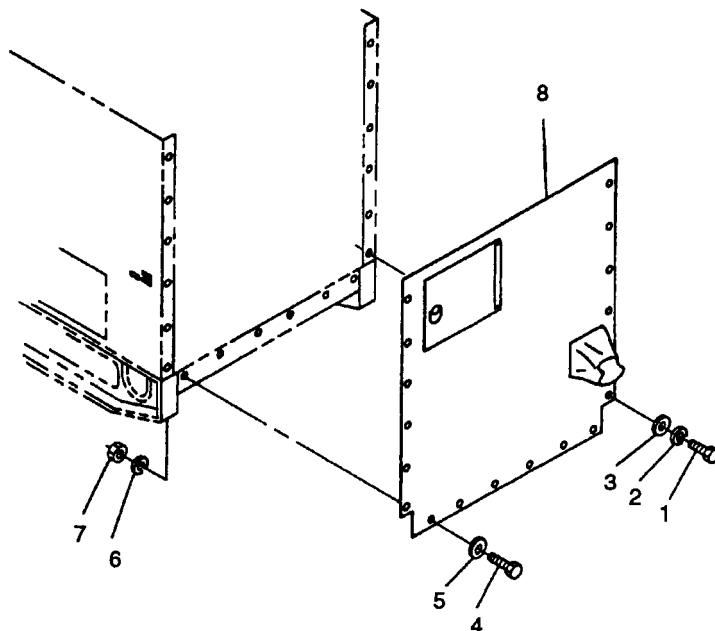

FIGURE 3-6. Rear Housing Assembly
- y. Remove bolts (1 and 4, FIGURE 3-6), washers (3) and (5), lockwashers (2) and (6), nuts (7), and rear housing panel (8) from generator set.